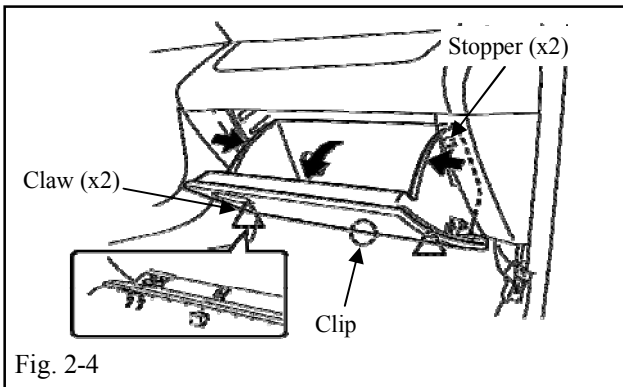

Fig. 2-4
(2) Release glove compartment stoppers by pressing both glove box side panels inward. (Fig. 2-4)
(3) Swing glove box toward you; then remove glove box from two (2) claws and one (1) clip as shown. (Fig. 2-4)